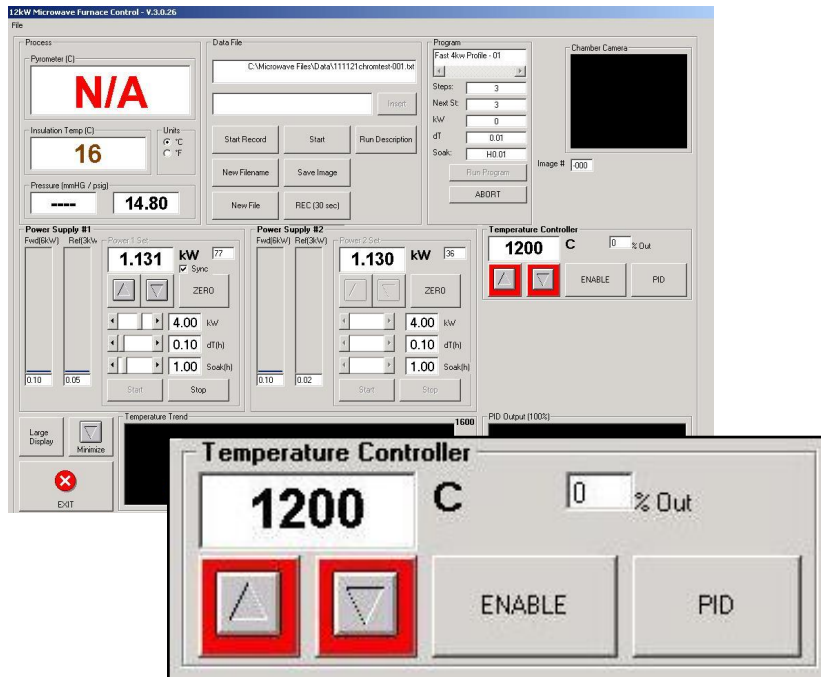

Figure 1 – Dual Mode Temperature Controller
At Hadron we are constantly developing new process controls for microwave (MW) metal melting and casting technology. The most recent development in control interface combines Ramp-Step-Soak programmability along with PID (Proportional, Integral, & Differential) control theory. Both of these concepts are applied in Hadron's exclusive dual mode microwave temperature controller. See Figure 1